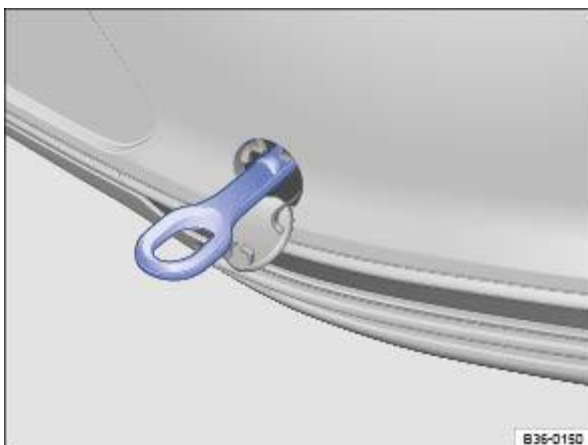

Fig. 179 On the right-hand side of the rear bumper: screwed-in towing eye.
- ❑ Turn the towing eye clockwise into the mounting ⇒ Fig. 179 and tighten as far as it will go ⇒  . Use a suitable object to screw the towing eye fully and securely into the mounting.